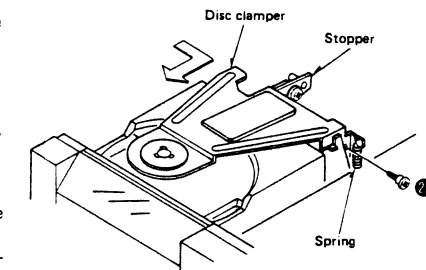

Fig. 8
3. Remove the disc clamper setscrew [Fig. 8 : ㉔] and remove the spring.
4. Remove the disc clamper in the direction of the arrow [Fig. 8].